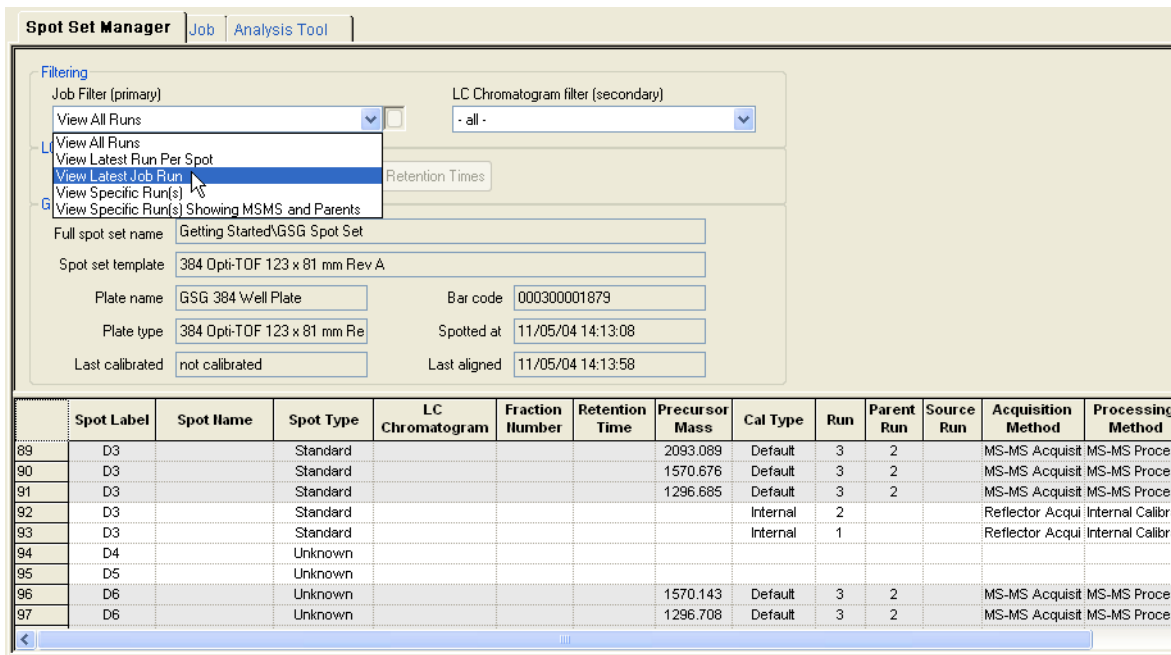

Figure 9-7 Selecting View Latest Job Run
2. In the Job Filter (primary) drop-down list, select **View Latest Job Run** (Figure 9-7).